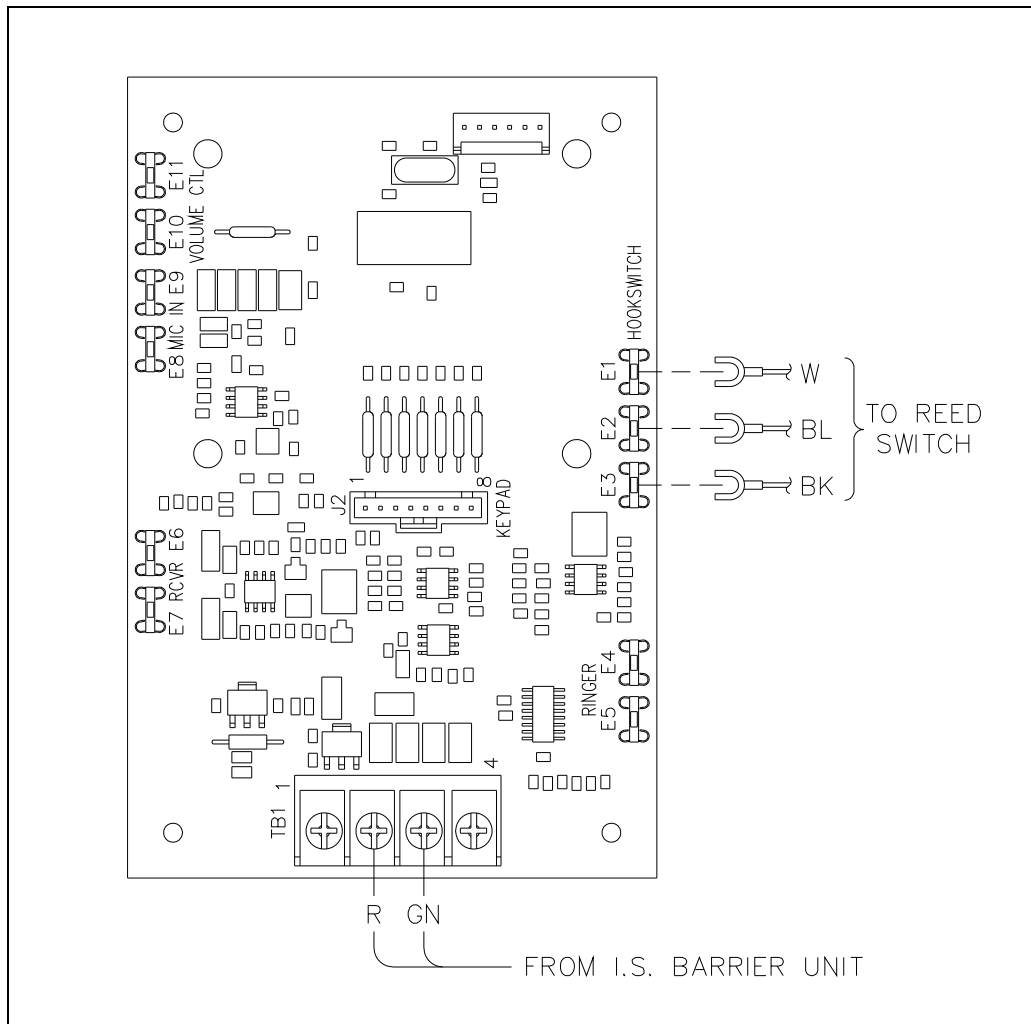

Figure 3. I.S. Telephone PCBA (for Models 262-001 and 272-001 only)
2. Disconnect the red (Ring) and green (Tip) wires from TB1. See Figure 3.
10. Plug spades on the blue, white, and black wires into E1, E2, and E3 respectively on the PCBA. See Figure 3.
12. Reconnect the red and green wires to TB1. See Figure 3.